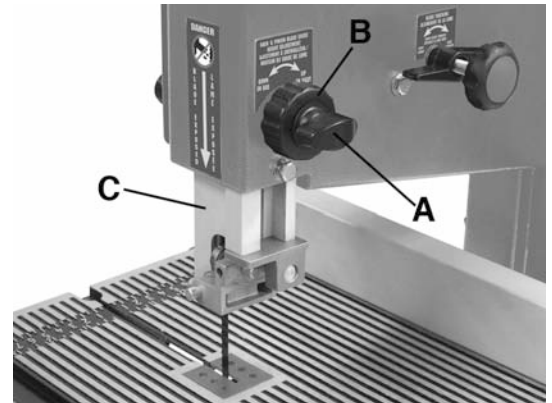

FIGURE 7
The upper blade guide assembly (C) Fig.7 should always be set about 1/8" above or as close as possible to the top of the surface of the workpiece being cut.
- 1) Loosen the upper blade guide assembly lock knob (A) Fig.7.
- 2) Turn the upper blade guide assembly adjusting knob (B) to position the blade guide assembly (C) 1/8" above the surface of the workpiece.
- 1) Loosen the upper blade guide assembly lock knob (A) Fig.7 and position the upper blade guide assembly all the way up. Retighten the lock knob.